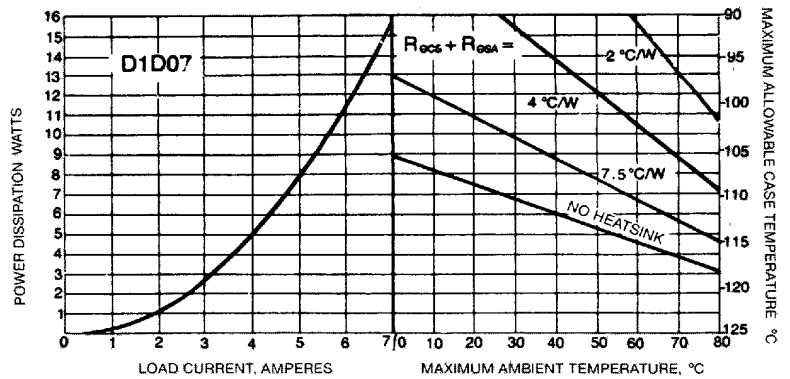

Figure 5. Thermal Derating Curves: 7 Amp, 100 Vdc
- ① See figures 5 thru 14.
Referring to figures 5 through 14 the left halves show power dissipation versus load current. The right halves are families of curves which are used in selecting the required heatsink to maintain a maximum case temperature for a given ambient. It is important to note that the thermal resistance values ( $^{\circ}\text{C}/\text{W}$ ) shown include both case-to-heatsink interface ( $R_{\text{ocs}}$ ) as well as the heatsink-to-ambient thermal resistance ( $R_{\text{osa}}$ ). Thus, when selecting a heat-sink, the value of ( $R_{\text{ocs}}$ ) must be subtracted from the number indicated by the curve in order to determine the required heatsink-to-ambient thermal resistance ( $R_{\text{osa}}$ ).